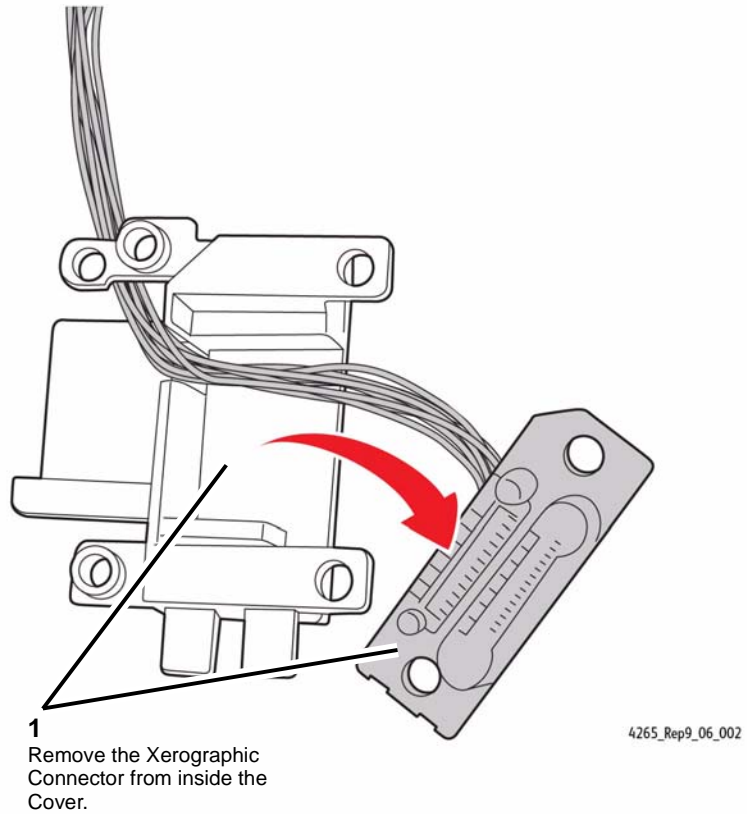

Figure 2 Removing the Xerographic Connector
3. Remove the Xerographic Connector (Figure 2).